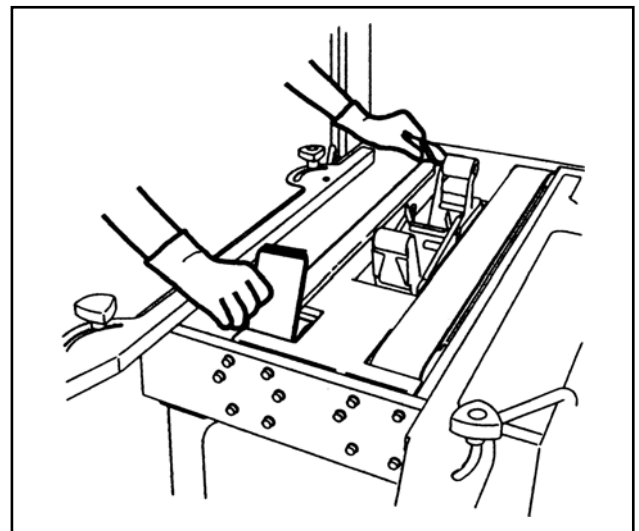

Figure 4-4 – Remove and Replace Belt
3. Place new belt over pulleys with laced splice at top (see Fig. 4-4). Insert splicing pin.